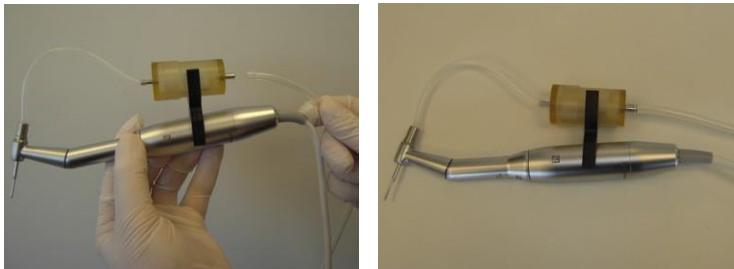

Figure 3-59. Connecting the Extraction Tube to the Graft Collector's Suction Side
15. Connect the Sterile extraction tube to the graft collector's Suction side, as shown in Figure 3-59.